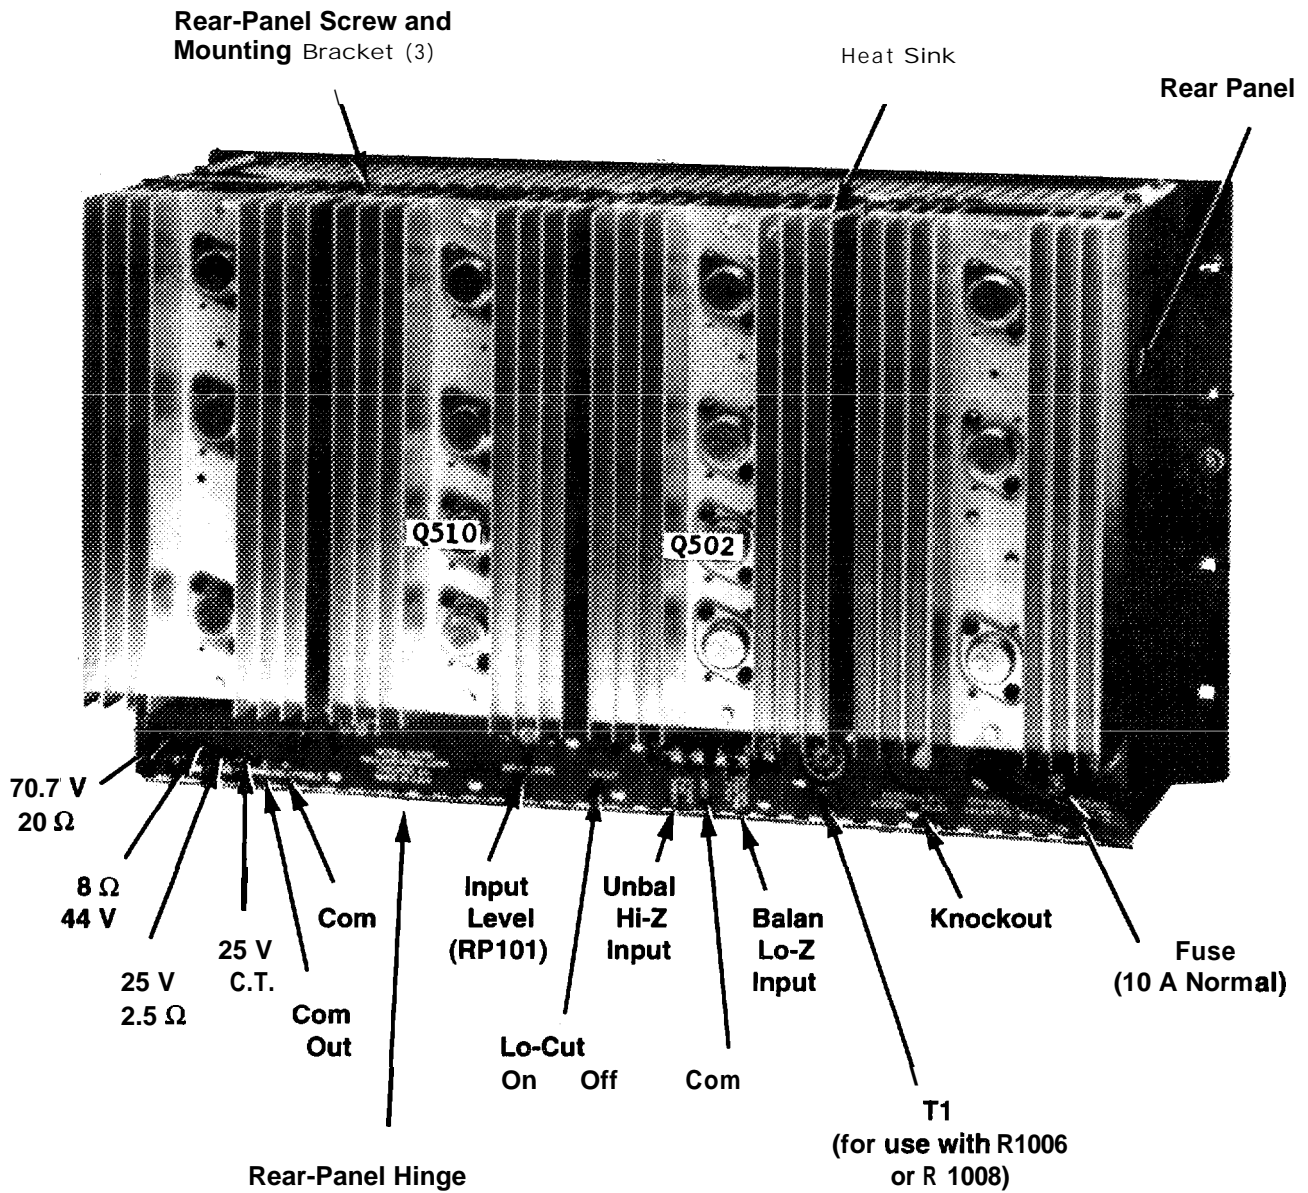

Figure 3. Rear View of FAX250
Step 1. Make sure that no power—neither batteries nor AC—is connected to the amplifier. Then remove the three top screws from the rear top of the unit (see Figure 3) and gently open and lower the hinged rear panel (it’s heavy).
Step 2. Bring in the DC power cable (at least 14-gauge—check the local codes) through the conduit knockout hole in the rear panel (marked *External DC Access*, near the AC power cord—see Figure 3).
the signal source has a high output impedance, keep the signal leads shorter than ten feet. See Figure 3 for the location of the input terminals.
Balanced Input: Connect the audio source to the *Bal. Input* terminals with a twisted-pair, low-capacity shielded cable. This input configuration requires the installation of a plug-in transformer in chassis socket *TI* (S501—see Figure 3). Use the Rauland R1006 Balancing Transformer for a balanced input, or the Rauland R1008 Bridging Transformer for a balanced bridging input. Each transformer has a 1:1 turns ratio and comes with a mounting bracket and screw.
The output terminal block is located on the left rear side of the amplifier chassis (see Figure 3). Make sure that all power to the amplifier, AC and DC, is turned off, then
The *Input Level* control (RPI01) is recessed in the rear panel (see Figure 3). This control can be adjusted with a standard ¼-inch screwdriver.